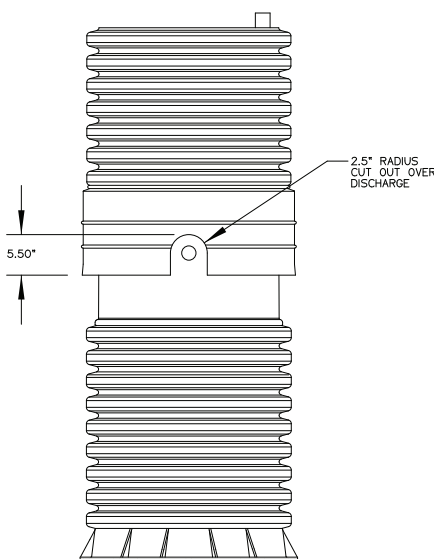

Figure 11
**NOTE: IF EXISTING ACCESSWAY HAS ONLY 2 CORRUGATIONS (Fig. 11)**